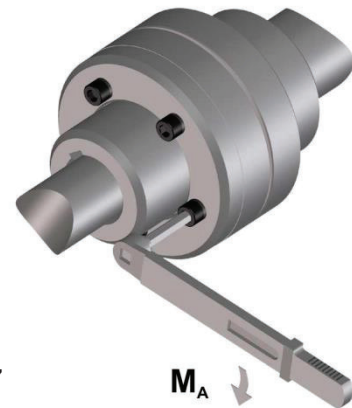

Fig. 17
- ☐ Before initial operation, please check the screw tightening torques M_A acc. Table 8 (Fig. 17).
- ☐ Tighten the screws to the tightening torques M_A stated in Table 8 (Fig. 17).